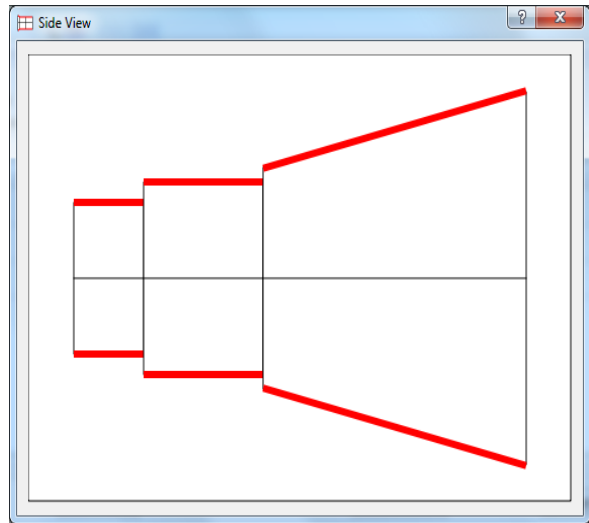

FIGURE 12. Geometry plot for TE01 Cavity
17. Select *Draw Geometry* and confirm that the geometry is as shown in Figure 12.